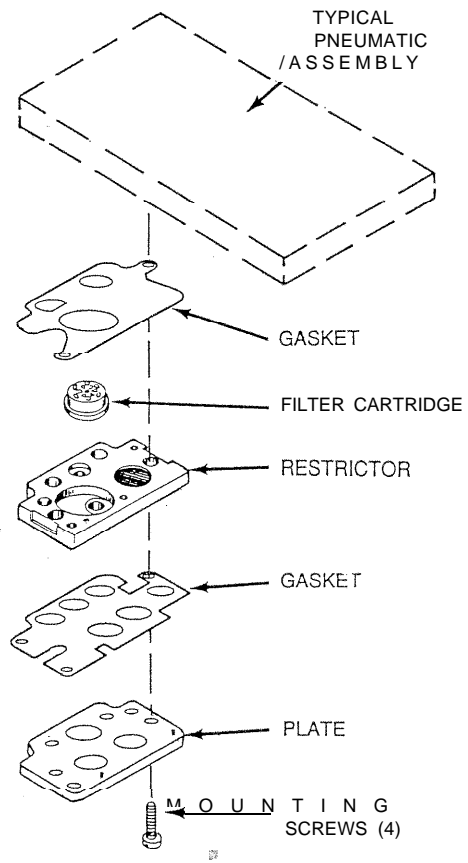

Fig. 11. Restrictor Block Assembly and Filter Cartridge Replacement.
- 3 Access to the restrictor block assembly and filter cartridge is from the rear of the base assembly. Remove the four mounting screws from the restrictor block (Fig. 11).
- 4 Carefully lift off the restrictor block (Fig. 11).